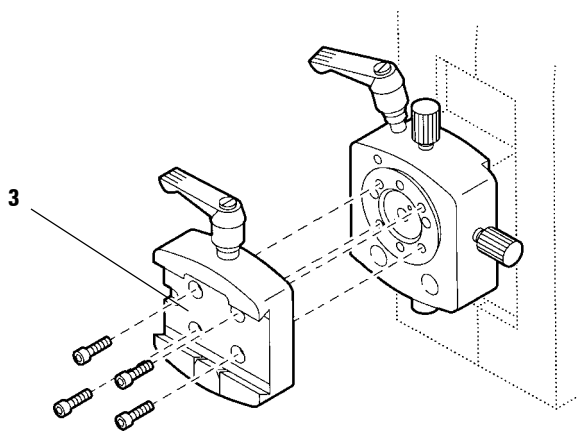

Fig. 29.2
- To remove the dovetail adapter (3) from the fixture (Fig. 29.2) detach the four screws with a no. 3 Allen key.